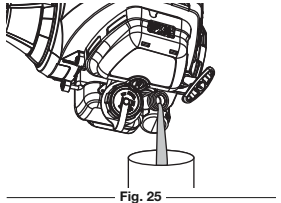

Fig. 25
2. Pour the oil out of the oil fill hole and into a container by tipping the unit to the side (Fig. 25). Allow ample time for complete drainage.